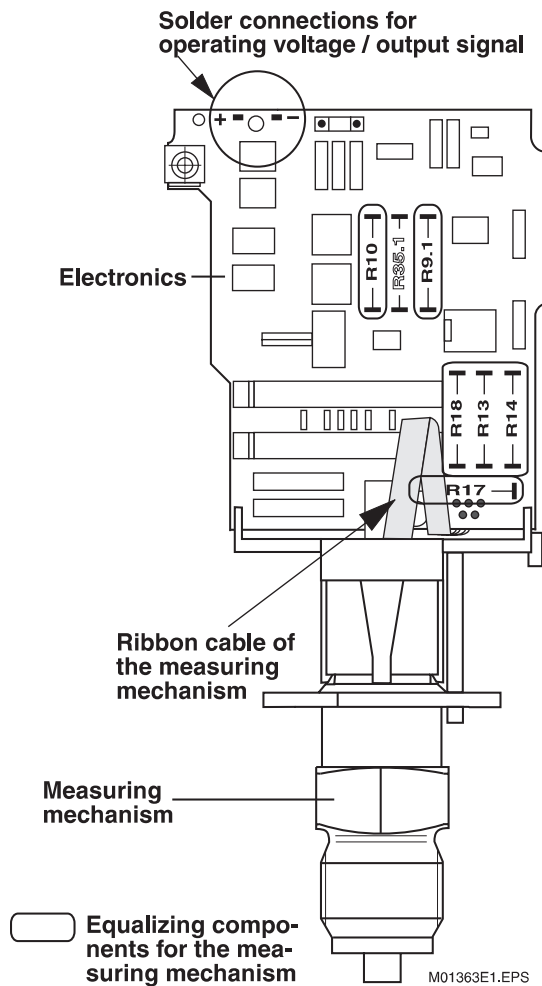

Fig. 31. Component side of the Measuring Mechanism / electronic unit of the AMD 200
6. Resolder the **equalizing components for the measuring mechanism** (Fig. 31) from the defective electronic pcb onto the new one. Observe the soldering instructions.
7. If **resistor R 9.1** is not soldered in on the defective electronic pcb (see Fig. 31), then R9.1 is to be cut out of the new electronic pcb.
3. Unsolder R10, R17, R18 and either R13 or R14 (Fig. 31, equalizing components for the measuring mechanism).
7. Solder the **equalizing components** supplied with the measuring mechanism into the corresponding places on the electronic pcb (Fig. 31, equalizing components for the measuring mechanism). Observe the soldering instructions!